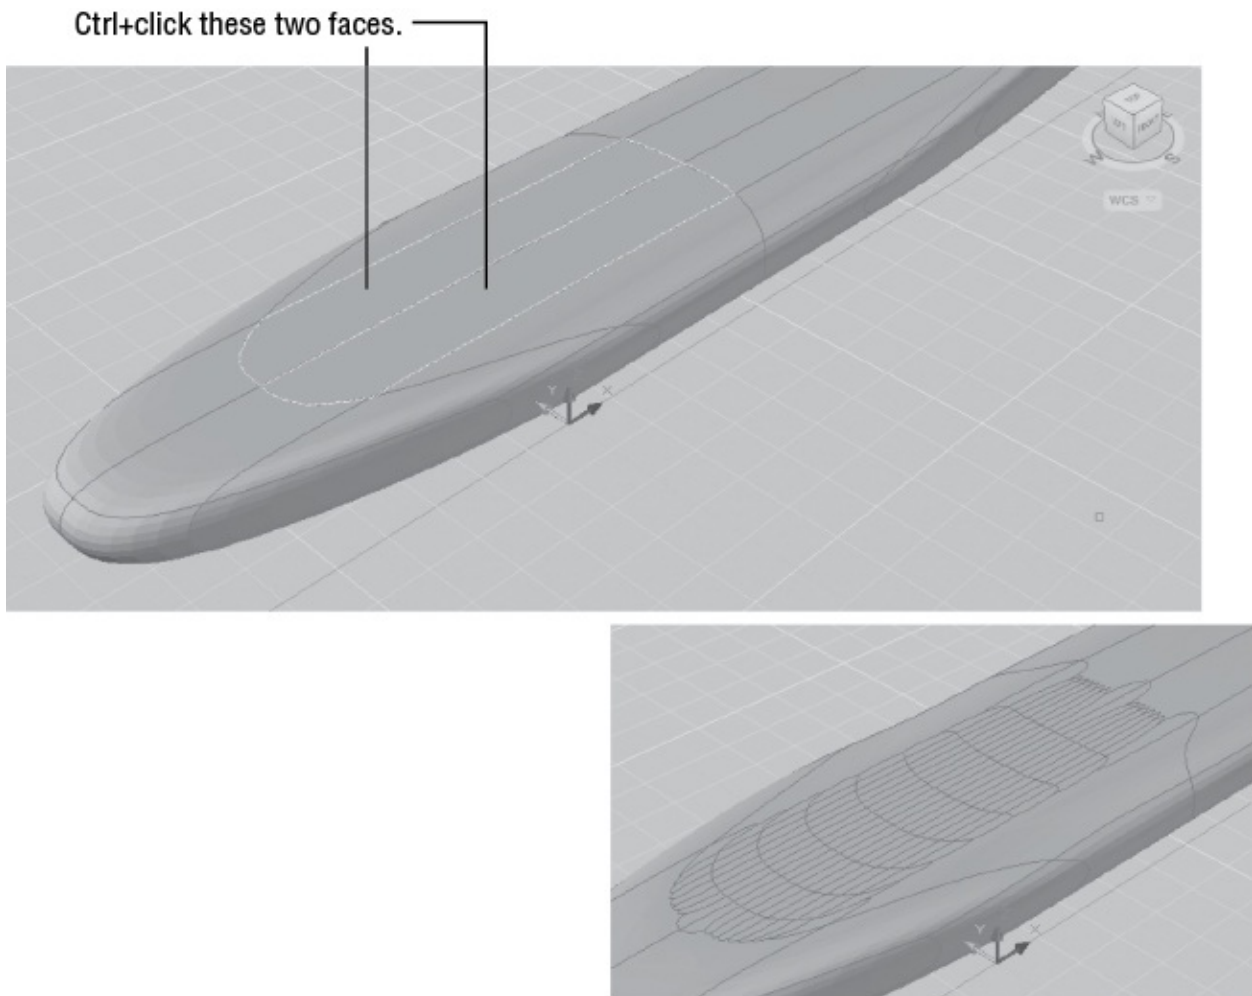

FIGURE 23.17 Select the faces to refine.
1. Adjust your view so that it looks similar to the top image in Figure 23.17.
6. Hold the Ctrl key and click the two faces shown in the top image of Figure 23.17.